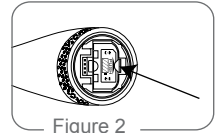

Figure 2
2. Push both battery tray button to release it. (Figure 2)